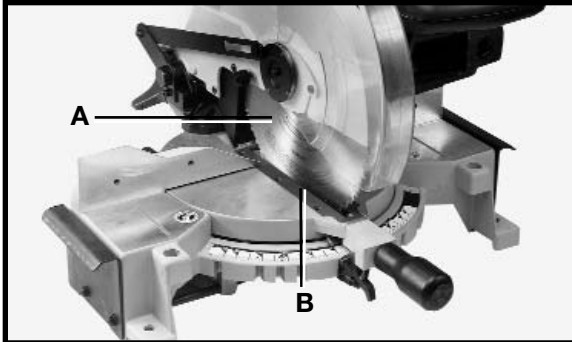
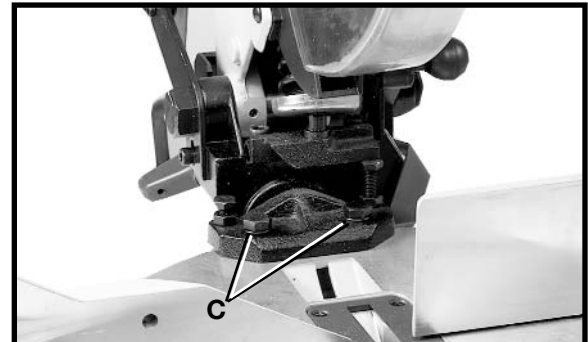

Fig. 20
Fig. 21
2. Lower the cutting arm. The saw blade (A) Fig. 20 should be parallel to the left edge (B) of the table opening.
3. If an adjustment is necessary, raise the cuttinghead, loosen screws (C) Fig. 21, and move the cutting arm until the blade is parallel with the left edge (B) Fig. 20 of the table opening. Then tighten the two screws (C) Fig. 21.